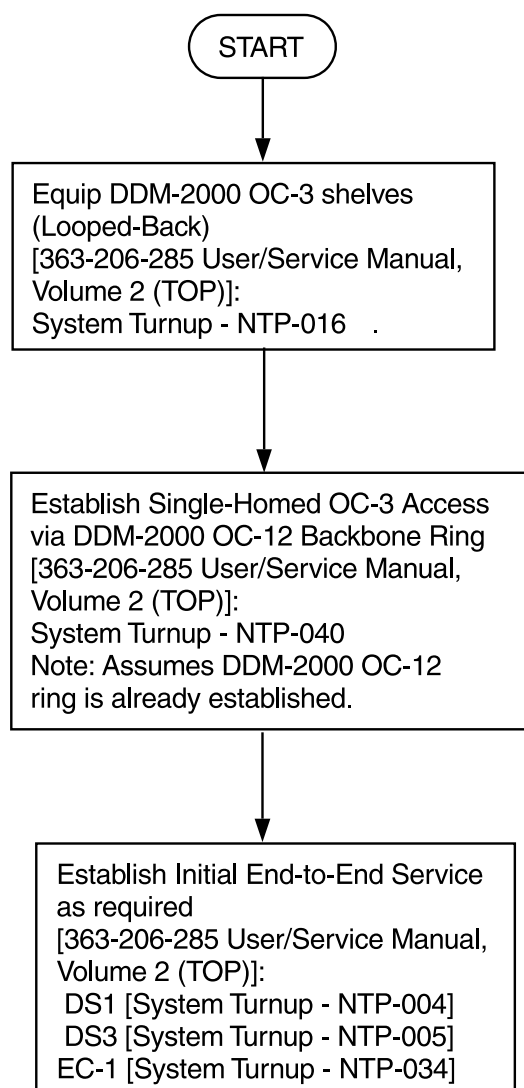

Figure 24. DDM-2000/FT-2000 Large Network Configurations — Single-Homed OC-3 Access via DDM-2000 OC-12 Backbone Ring
- Figure 24 Single-Homed OC-3 Access via DDM-2000 OC-12 Ring